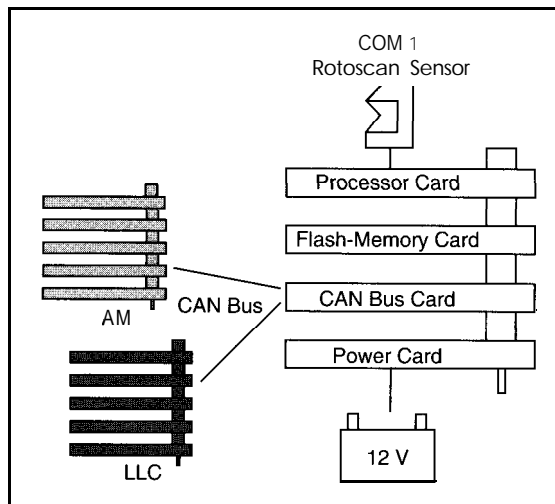

Figure 6: The Safety Manager uses the Rotoscan to detect unforeseen objects. It can stop the excavator by sending commands across the CAN bus.
The Safety Manager (SM) acts as the excavator's conscience, ensuring that the machine remains in a safe stable condition. To detect obstacles, the SM is connected to laser-scanning sensor via RS-232 (see Figure 6).